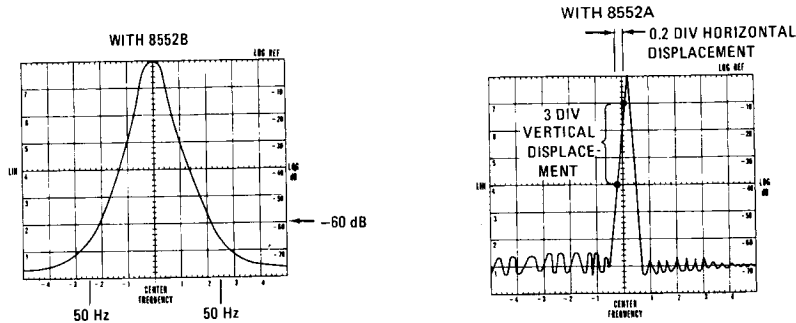

Figure 4-10. Residual FM Display
- All sidebands 2.5 divisions (50 Hz) from CENTER FREQUENCY graticule should be below -60 dB graticule line (see Figure 4-10):
- Using LINEAR SENSITIVITY vernier, set signal peak to top horizontal graticule line (see Figure 4-10). Then FINE TUNE so that upward slope of signal intersects CENTER FREQUENCY graticule line 1 division from the top. Note where upward slope of signal intersects middle (4) horizontal graticule line.